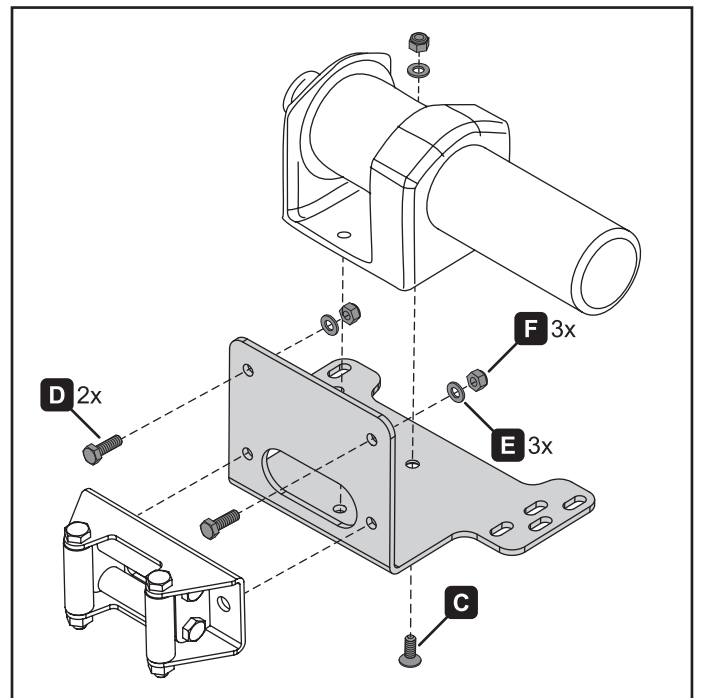

Figure 5. 2-hole winch configuration
2-Hole winch: Use the hardware included with your winch and bolts (C, D), washers (E) and nuts (F) as shown in figure 5.